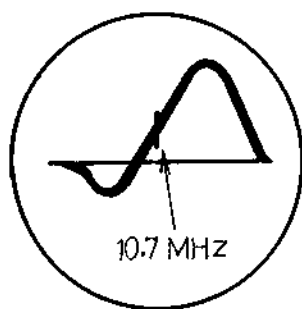

Fig. 7
- a. Align the L14 so that the wave mode will be appeared on either side of the flyback line. (Refer to Fig. 7 & 8).